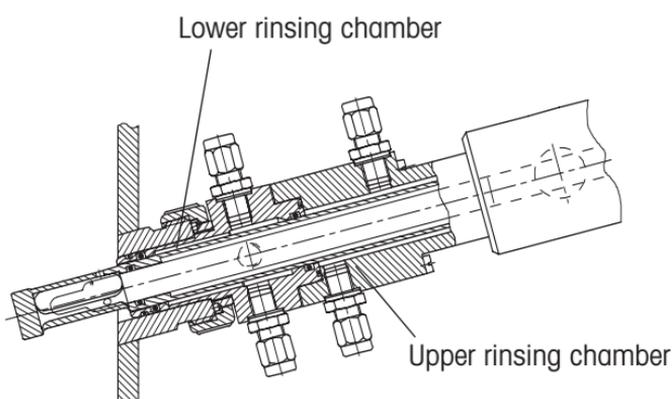

Figure 1.1 "IN" Position
3. The retractable member must not be inserted without the electrode in place (see Fig. 1.1).
**Important:** It is essential that the two closely adjacent fittings point vertically downwards (see Fig. 1.1/1.2). Do not mount horizontally.